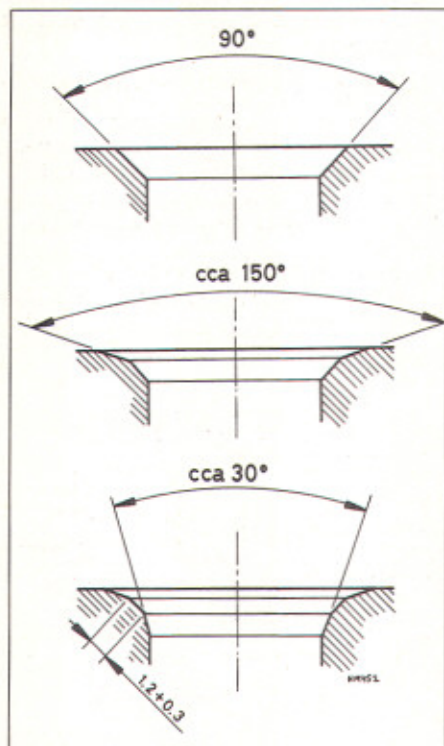

Fig. 12.5 Valve seat angles – non-136 models (Sec 3)
- The valve guides cannot be renewed, and therefore if they are excessively worn, they will need to be reamed out to suit an oversize valve. This is a task best entrusted to a Skoda dealer. The valve seats can be re-cut using a suitable milling cutter with the correct angle – Figs. 12.5 and 12.6 show the seat angle requirements for each head type